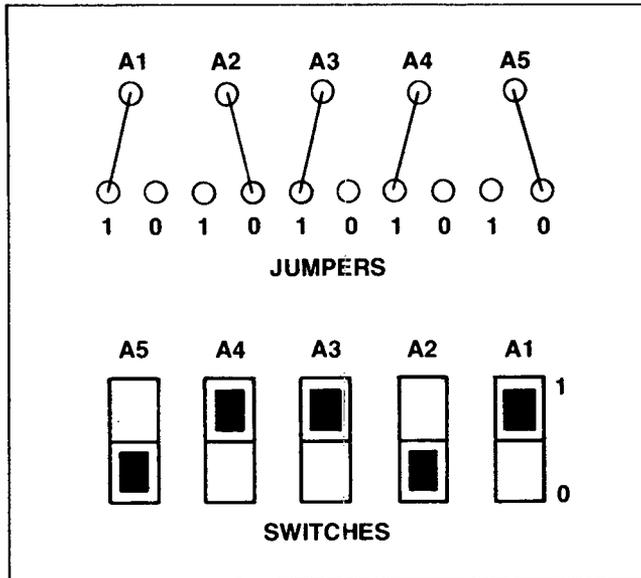

Figure 16-2. HP-IB Switch or Jumper Positions
- If the A6 board has switches, set the switches. Refer to figure 16-2 for switch positions. Replace the top cover, power cord, and HP-IB cables.
- Set the jumpers on the A6 board, as shown in figure 16-2.